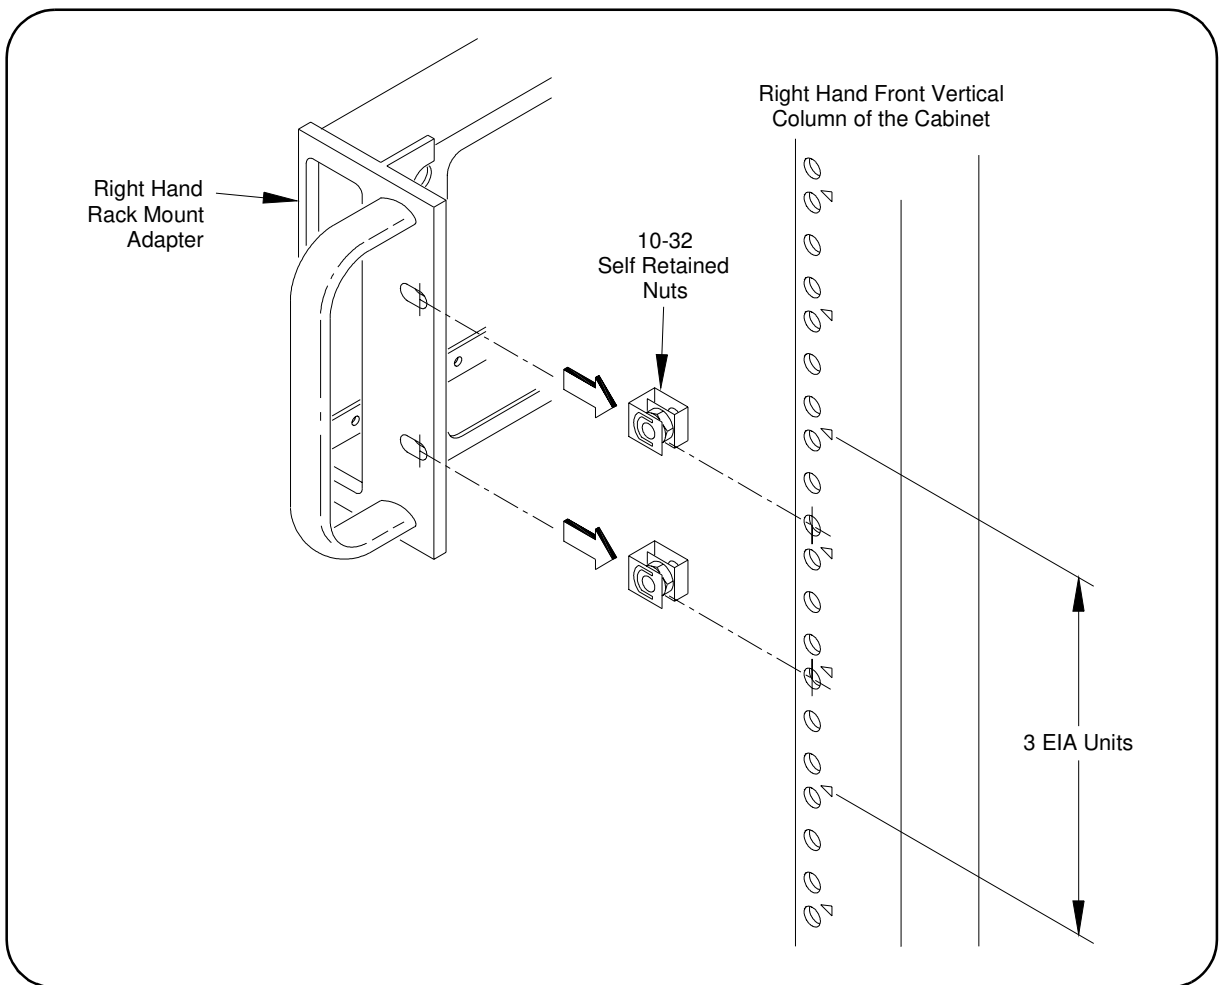

Figure 2-9. Installing Rack Mount Adapter Channel Nuts
Install Channel Nuts for Rack Mount Adapters (Figure 2-9)
- 2 Select the holes for the LH and RH Rack Mount Adapters. See Figure 2-9 for the RH Rack Mount Adapter hole locations. (LH Rack Mount Adapter hole locations are the same.)